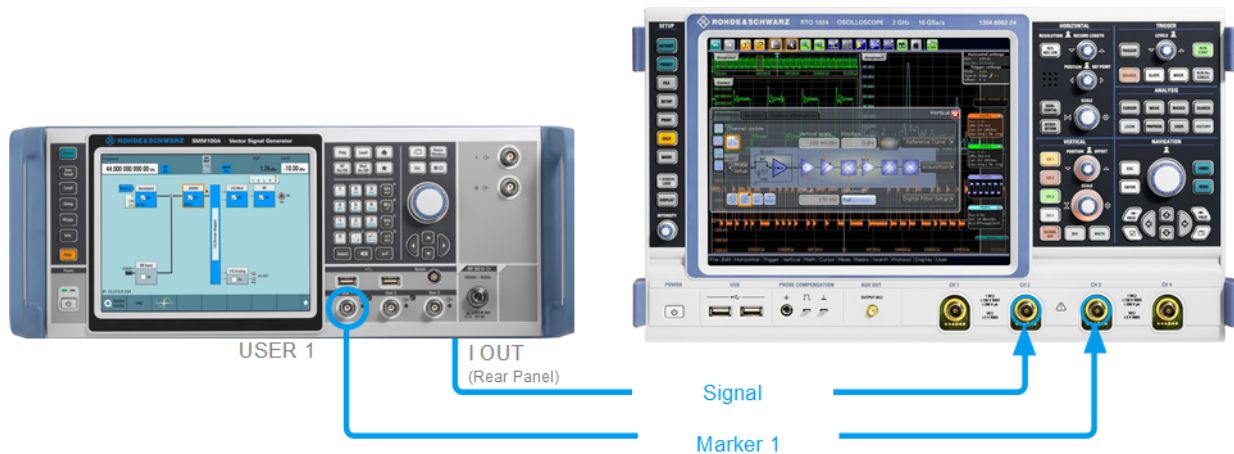

Figure 3-14: Simplified representation of a test setup for signal monitoring**
3. Use a suitable cable to connect the User 1 connector of the R&S SMM100A to the monitoring instrument, for example oscilloscope like R&S®RTO. See Figure 3-14.